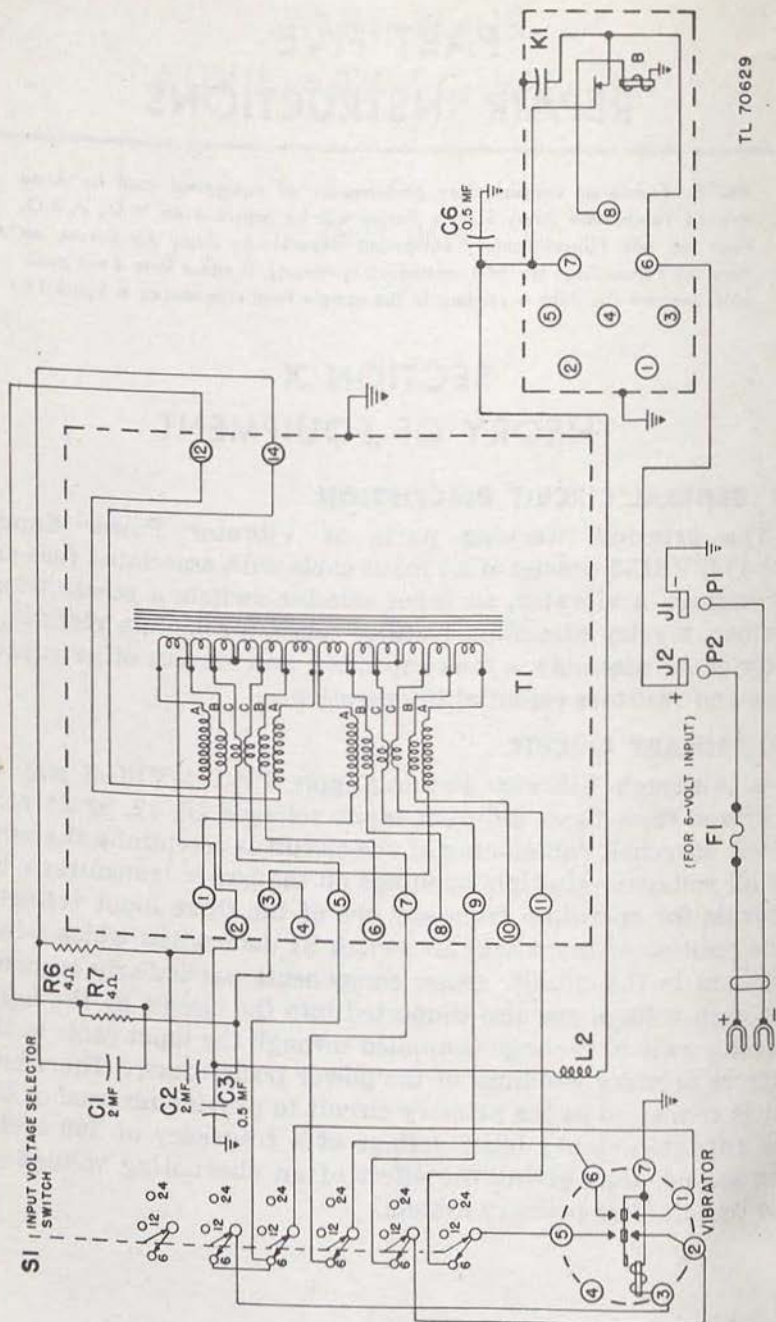

Figure 10. Functional diagram of 6-volt input.
b. The primary circuits on 6-, 12-, and 24-volt operation are shown in figures 10, 11, and 12 respectively. Selection of the proper primary windings is performed by switch S1. Resistors R4 and R5 are voltage-dropping resistors to provide 6 volts to the vibrator driving coil when using a 12- or 24-volt supply. Capacitors C3 and C6, together with choke L2, form the r-f (radio-frequency) filter for the input circuit. Buffer capacitors C1 and C2 are connected across the primary of the transformer to provide virtual neutralization of the effect of the inductive reactance of the transformer. This reduces the effective voltage at the vibrator contacts when the contacts open and close, thus prolonging vibrator contact life by eliminating electrolytic transfer (transfer of metal from one contact to another without necessarily arcing) and erosion. Resistors R6 and R7 are connected across the ends of the transformer primaries which are normally at the same instantaneous potential. Their effect is to equalize potentials during abnormal surge or transient conditions. These potentials might otherwise damage the contacts. Air inductors A, B, and C in the primary of transformer T1 act as current dividers for the contacts of the vibrator. In effect, the contacts are in parallel in the primary circuit. If one contact were to close slightly before the other, the contact would be damaged because the entire current would be drawn by the one contact. To prevent this damage, inductors A, B, and C have been added. The inductors delay the current slightly in the side of the circuit which contains the contact that closes first. As the first contact closes, the current starts to build up slowly, instead of instantaneously, because of the effect of the inductor. Before the current has reached its peak, the other contact will have closed, thereby causing current to build up through it. In this way the current is divided between the two contacts. These inductors are sealed within, and are part of, transformer T1.